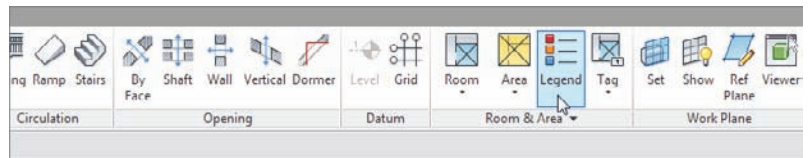

FIGURE 15.18 Clicking the Legend button
6. In the Room & Area panel of the Home tab, click the Legend button, as shown in Figure 15.18.